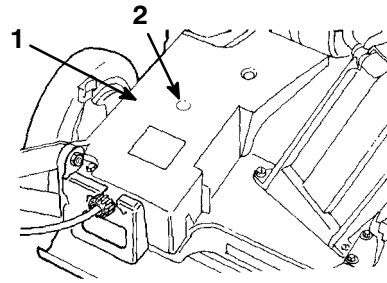

Figure 32
- Install a grease gun onto the fitting through the belt cover opening (Fig. 32).